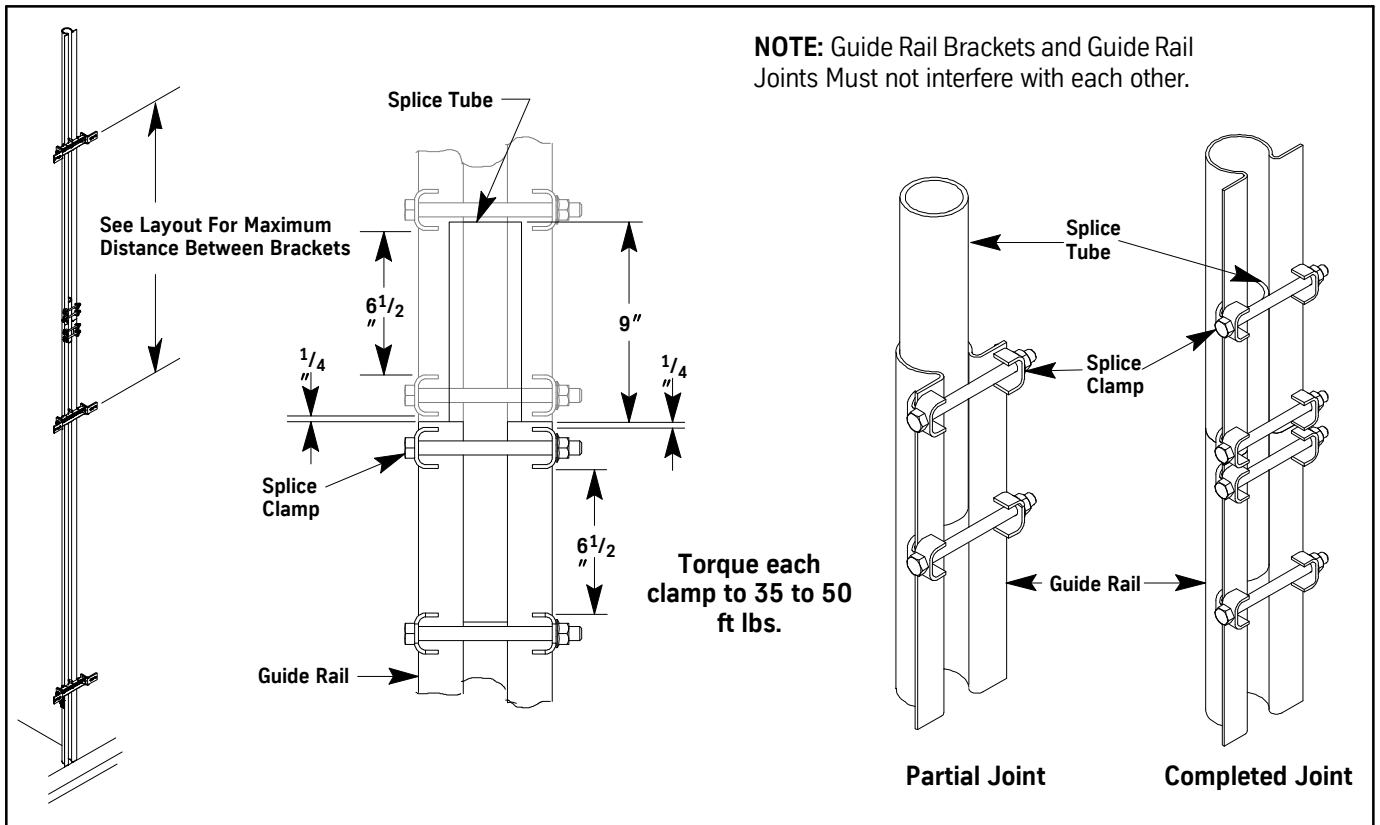

Figure 22 - Rail Splice and Final Rail Installation
- Install the next set of rail brackets. See job layout for maximum distance between brackets. See Figure 22.
- Install a splice tube in the existing rail with two splice clamps and tighten the splice. Use measurements and torque specification shown in Figure 22.
- Install the remaining two splice clamps and tighten the splice. Use measurements and torque specification shown in Figure 22.